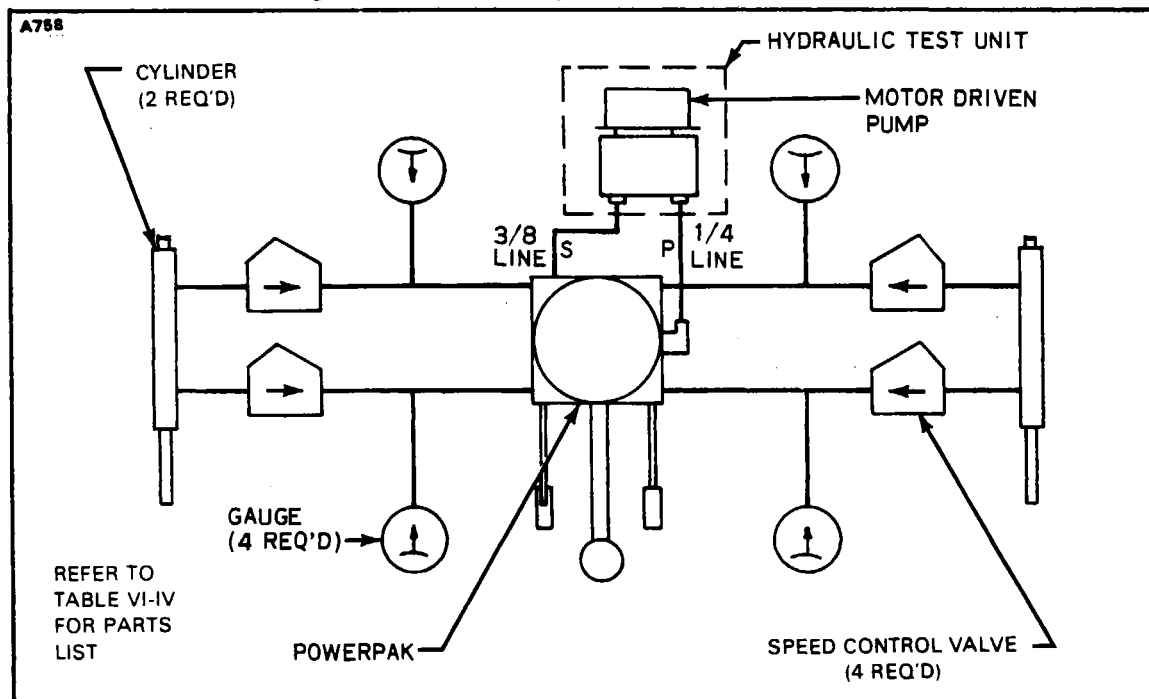

Figure 6-22. Checking Powerpak Operation
- f. Connect the pressure gauges, speed control valves and actuating cylinders called for in Table VI-IV to the pressure ports of the powerpak as shown in Figure 6-22.